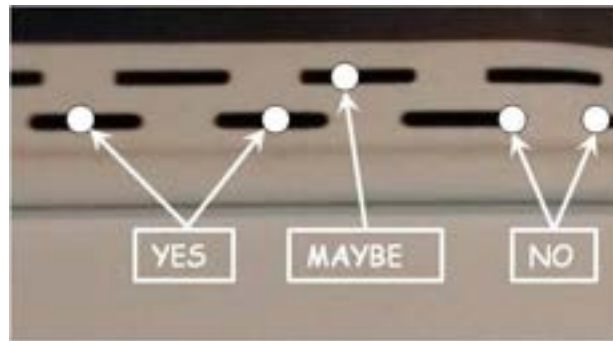

Figure 11-18. Nail Location in Siding Slots.
6. Always nail in the center of the slots in the lower row of slots and into a stud. Avoid nailing at angles: if a stud is not accessible from a slot in the lower row, use one of the offset slots in the upper row of slots (see Figure 11-18). If there is only a single row of slots, elongate the slot a smidge, using the slot tool, as necessary, to hit a stud. It's permissible to SLIGHTLY angle the nail to hit a stud as long as the head does not protrude so far that it will be visible on the next course. **Always slide each piece of siding side-to-side ¼ - ½" after nailing to be sure there is adequate clearance for temperature changes.**